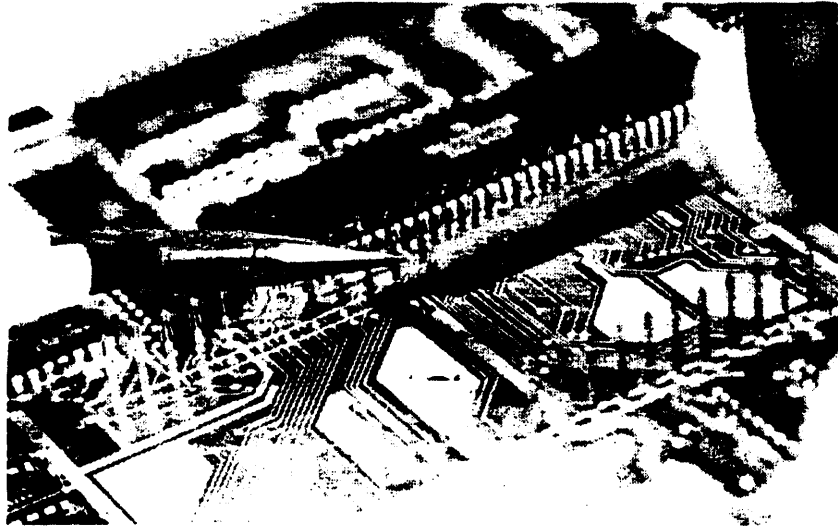

Figure 6-45. Aligning the Pins
7. Once soldered, apply the soldering iron to the solder again and, as the solder remelts, clamp the pins to the adjacent good pins with needle-nose pliers to get the proper alignment. (See figure 6-45.)